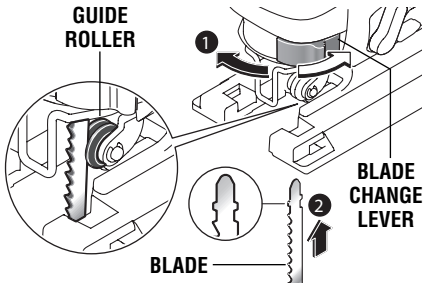

FIG. 2
2. Pull the blade change lever to the point that the slots on the blade clamp's ring line up with the slot in the center of the clamp (Fig. 2).